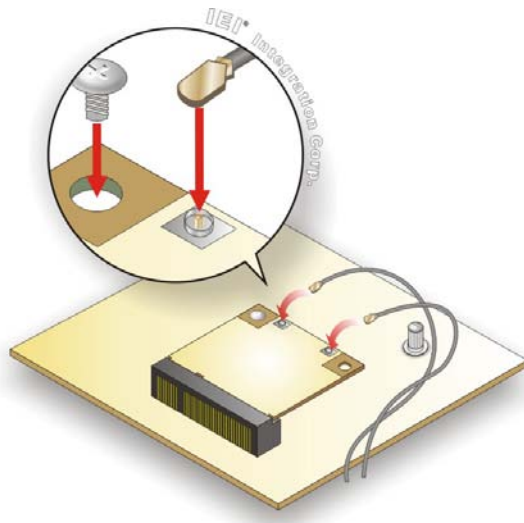

Figure 3-8: Securing WLAN Module and Connecting RF Cables
Step 6: **Secure the WLAN module.** Secure the WLAN module with the retention screw previously removed (Figure 3-8).
Step 7: **Connect the two RF cables** to the antenna connectors on the WLAN module (Figure 3-8).